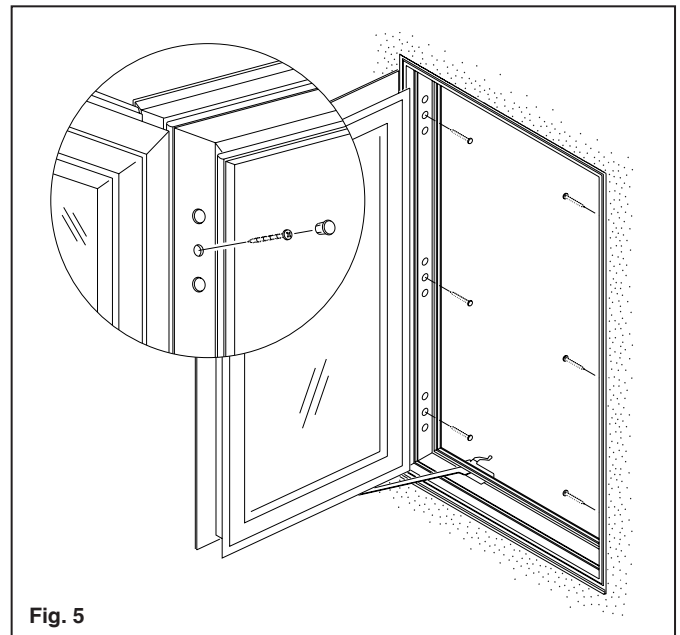

Fig. 5
B. Screw jambs into frame opening using #10 x 2 1/2" Phillips sheet metal screws and washers. Screws must be long enough to secure new frame to existing wood frame. Extra care should be taken as the vent panel has to be in the open position in order to fasten the frame to the opening. Pop off the nylon hole caps and use the predrilled holes in the jambs for installing screws. Use the center hole only at hinge locations. See **Fig. 5**. Start with the screw at the center of the hinge jamb. With the screw secured, check the level and plumb of the jamb before continuing with the other two screws. After hinge jamb is secured, check opposite jamb for plumb, adjust if needed and fasten with screws. Reinstall nylon hole caps.